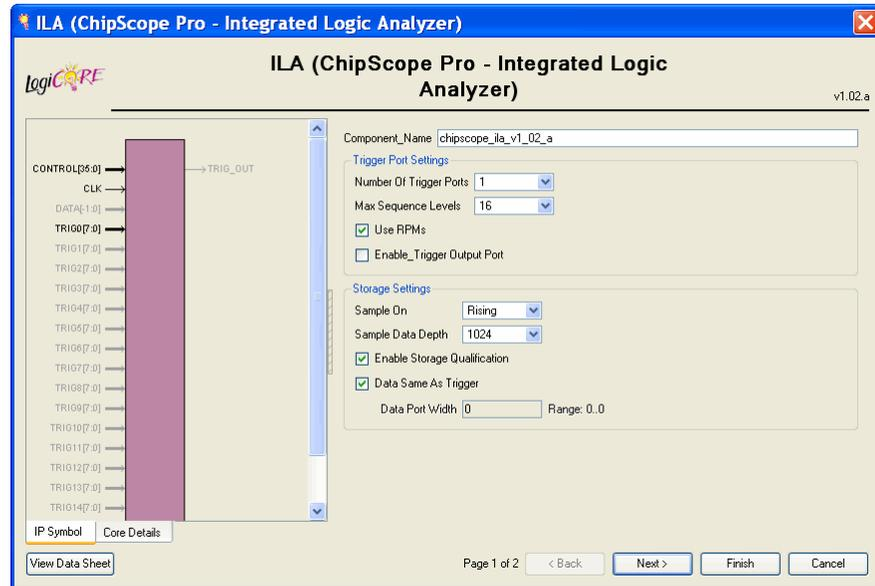
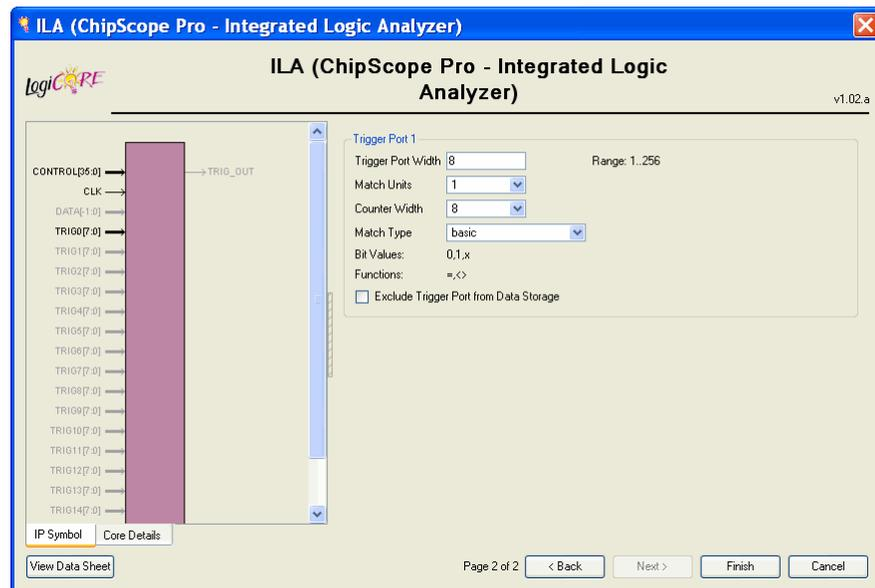

Figure 2-6: ILA Core Trigger and Storage Parameters
Figure 2-8: ILA Core Trigger Port Options
The CORE Generator tool is used to set up the ILA core parameters, including the general trigger and storage parameters (Figure 2-6) and the trigger port parameters (Figure 2-8, page 55).
- ◆ Individual trigger ports can be selected to be excluded from the data port (see Figure 2-8, page 55). If this selection is made, then the DATA input port will not be included in the port map of the ILA core.
After you have set up the trigger and storage ILA core options, click **Next**. This takes you to the screen in the ILA core CORE Generator tool that is used to set up the trigger port options (Figure 2-8). A separate panel is used to specify the parameters for trigger port enabled using the **Number of Trigger Ports** pull-down list shown in Figure 2-6, page 52.
If the **Data Same As Trigger** checkbox is selected (Figure 2-6, page 52), then a checkbox called **Exclude Trigger Port from Data Storage** appears in the trigger port options screen. Putting a checkmark in this checkbox will cause the trigger port to be excluded from the aggregate data port. By default, this checkbox is unchecked and the trigger port is included in the aggregate data port. A maximum data width of 256 bits (or 1,024 bits for Virtex-5 devices) applies to the aggregate selection of trigger ports.